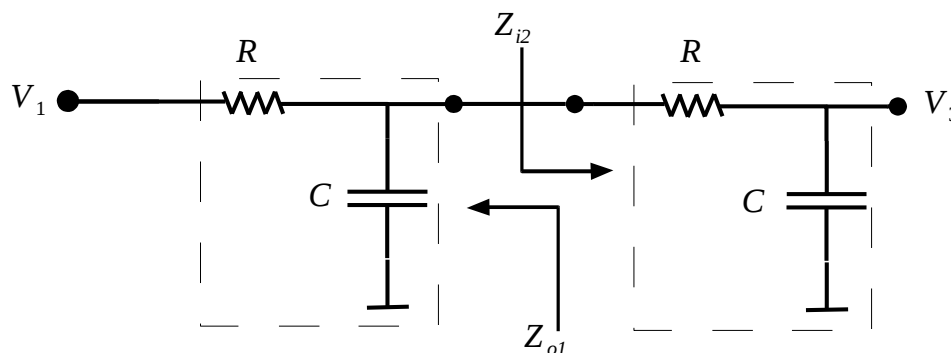

Figure 7.3.1: Cascaded passive RC filters
Now, consider the cascaded two RC links as in Figure 7.3.1.
- Assume you have two poles, R_1C_1 and R_2C_2 in these two cases. How should you choose the values for highest correspondence between 23) and Figure 7.3.1?